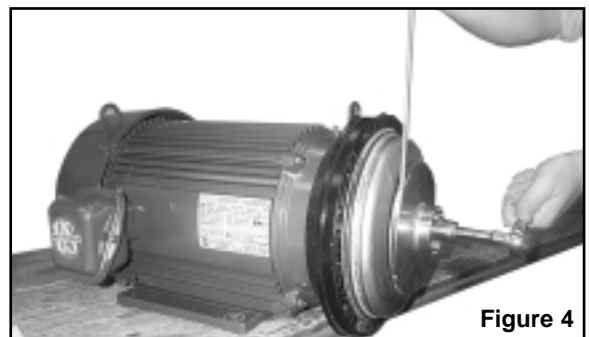

Figure 4
7. Insert a screwdriver in one of the impeller waterway passages and back off the impeller retaining assembly with a socket wrench, as shown in Figure 4.